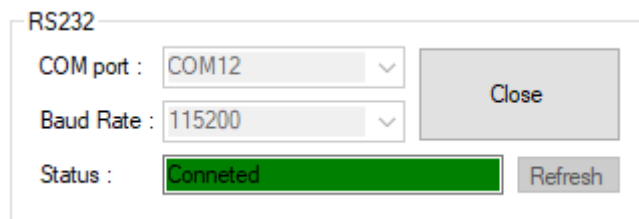
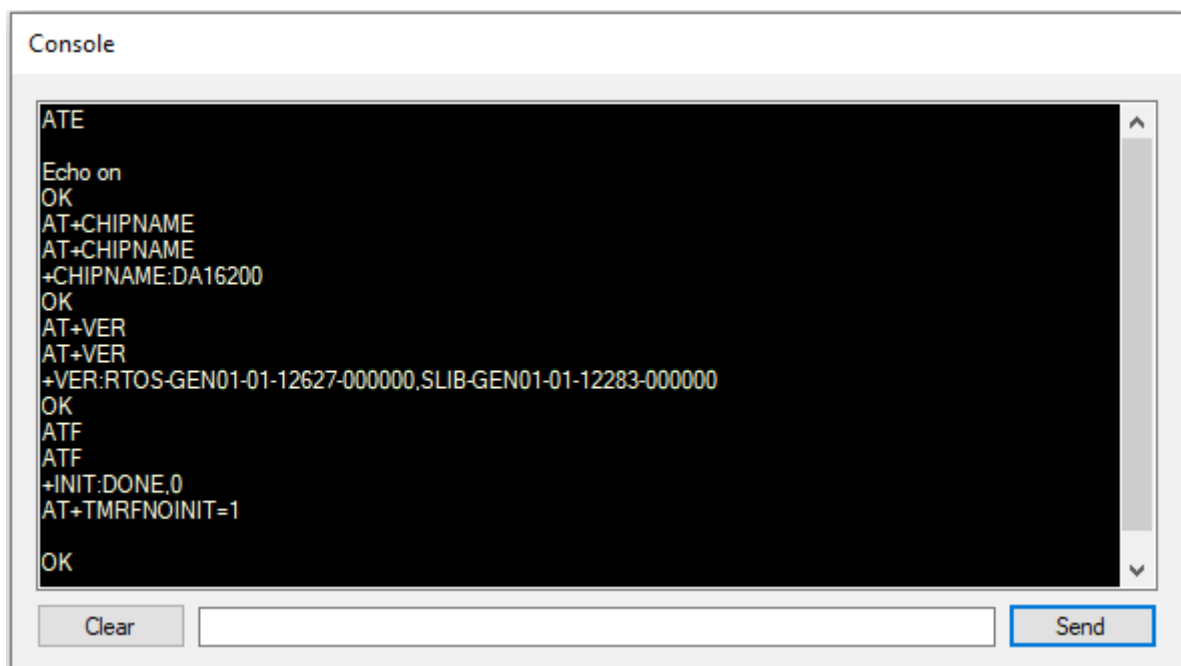

Figure 5. RS232 setup – connected
Figure 6: Debug console – connected
2. Select a COM port and click the **OPEN** button and wait for a few seconds, see Figure 5 and Figure 6.
- In the **Console** window (see Figure 6), when it is connected, the message "Echo on" is shown.